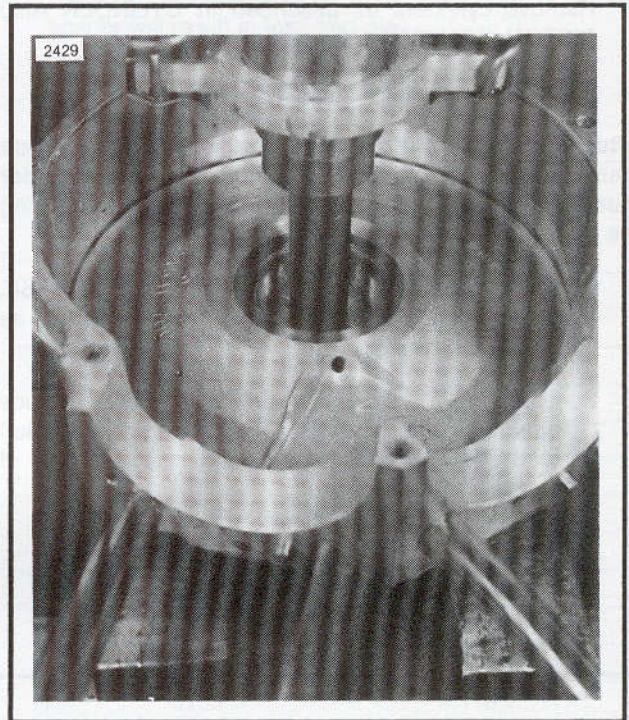

Figure 3-54. Remove Left Crankcase Bearing Races
7. See Figure 3-54. If left main bearing is to be replaced, press out bearing races (11 and 13, Figure 3-41) from opposite sides of crankcase hole, using CRANKSHAFT BEARING REMOVAL & INSTALLATION TOOL, Part No. HD-94547-80. Do not remove the lock ring (12).